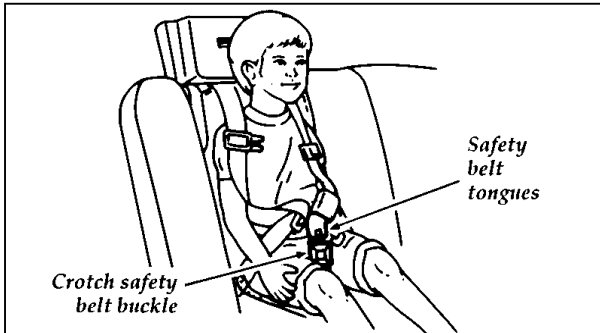

Figure 6: Shoulder safety belt placement on the child
7. Place the child on the child seat and position the shoulder belts over each shoulder. Refer to Figure 6.
3. Slide the shoulder belts off the child's shoulders and remove the child. Refer to Figure 6.